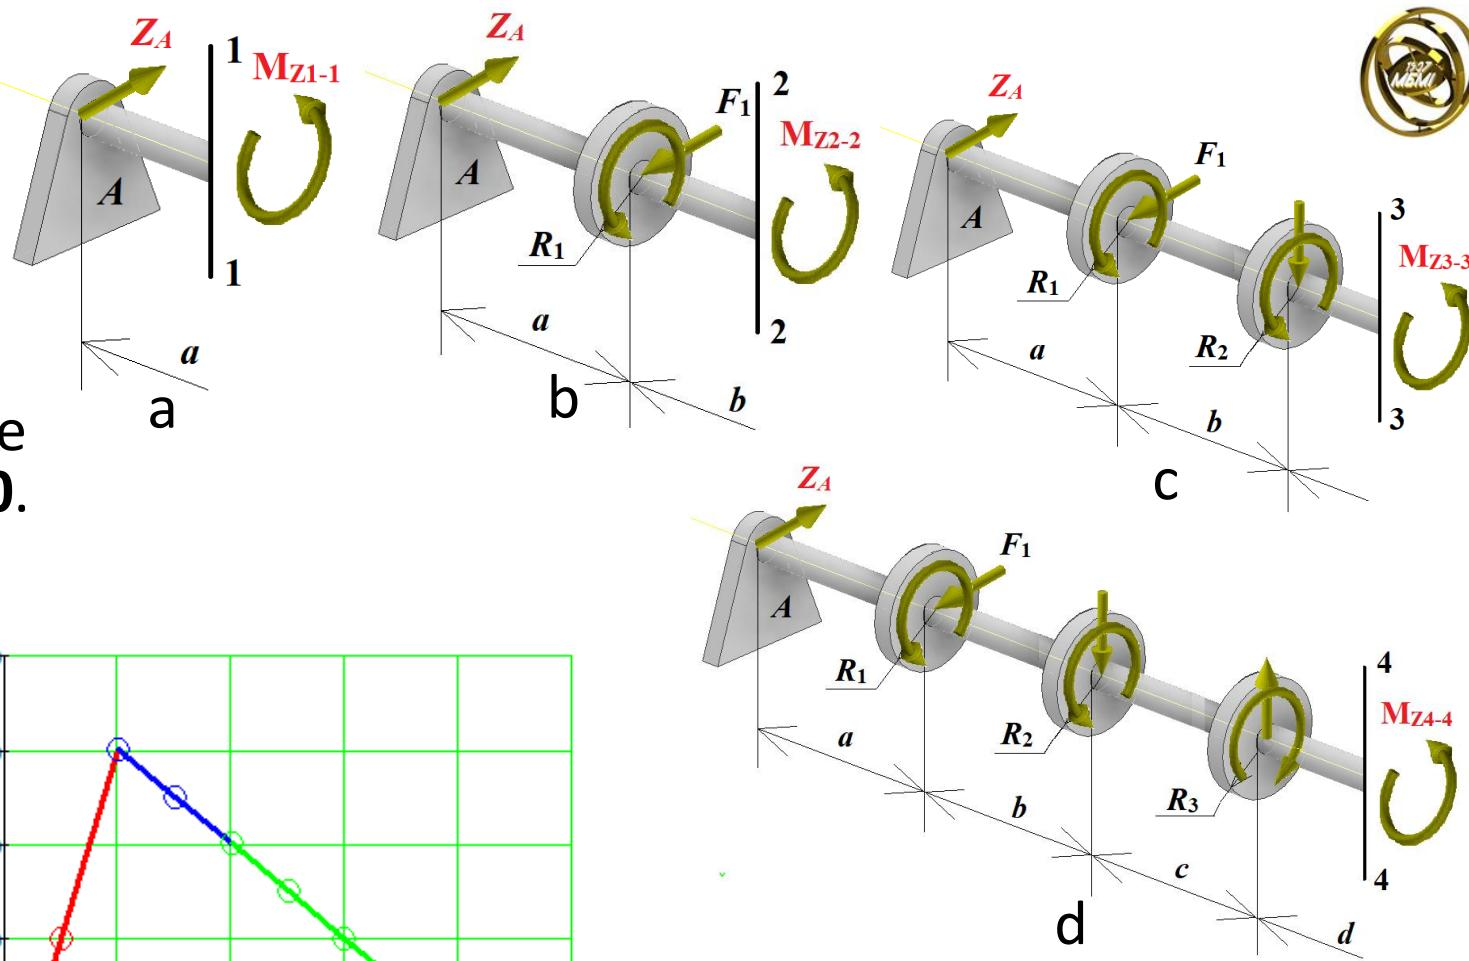

Fig. 10 – Calculation schemes for bending moments in **XZ plane**
11. Calculate bending moments in the **XZ plane** using the schemes in **Fig. 10**.